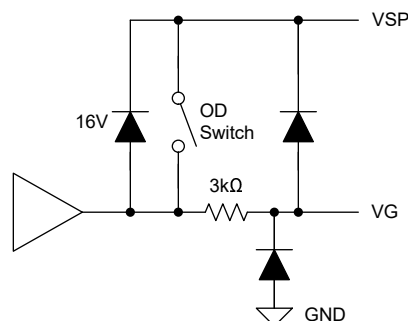

Figure 6-6. Equivalent Circuit for Gate Drive and Disable Switch
The gate drive (VG) can drive from close to the positive supply rail to 16V less than the positive supply voltage (V_{VSP}). Most modern MOSFETs accept a maximum V_{GS} of 20V. A protection clamp is only required if a large drain gate capacitance can pulse the gate beyond the rating of the MOSFET. Pulling the OD pin high disables the gate driver and closes a switch connecting an internal 3kΩ resistor from the VSP pin to the VG pin. This resistor discharges the gate of the external FET and closes the channel; see also Figure 6-6.